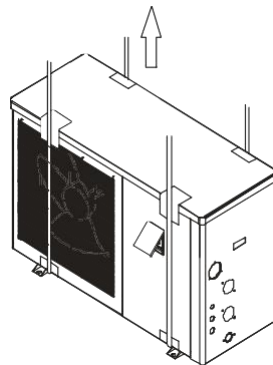

Figure 6 Lifting diagram
- Please use four or more soft lifting belts to move the sets (see Figure 6).